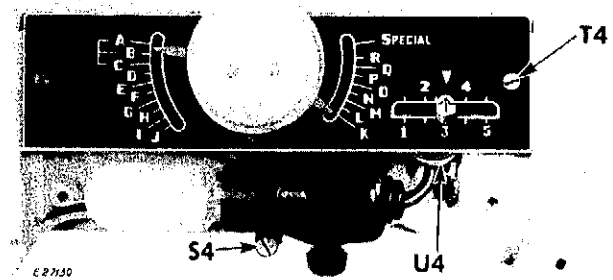

Fig. 303. Light Fixture
2. Remove screw **S4**, **Fig. 303** and allow light fixture to hang from arm.
7. Disengage rubber grommet **U4**, **Fig. 303** from arm casting.
1. Insert light fixture leads with rubber grommet up through hole provided for them in arm casting at **U4**, **Fig. 303**.
2. Install rubber grommet, as shown in **Fig. 303**.
7. Replace light fixture and fasten with screw **S4**, **Fig. 303**.